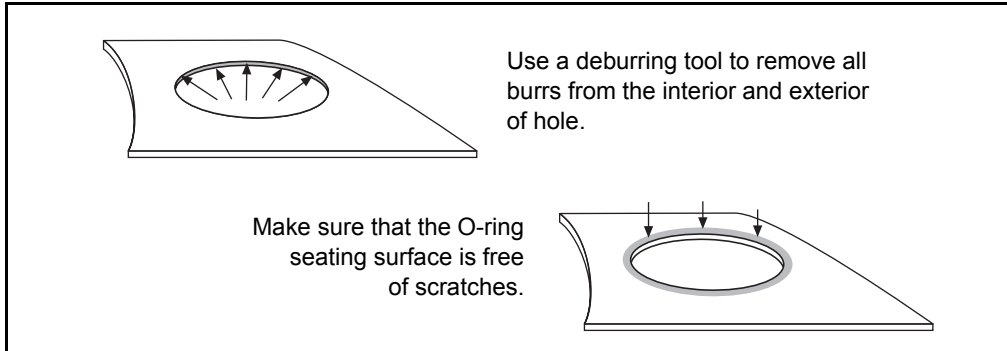

Figure 2.16 Removing burrs and inspecting the O-ring seal surface
2. Carefully remove burrs from the underside of the hole and remove paint in a narrow ring around the hole (see Figure 2.16).